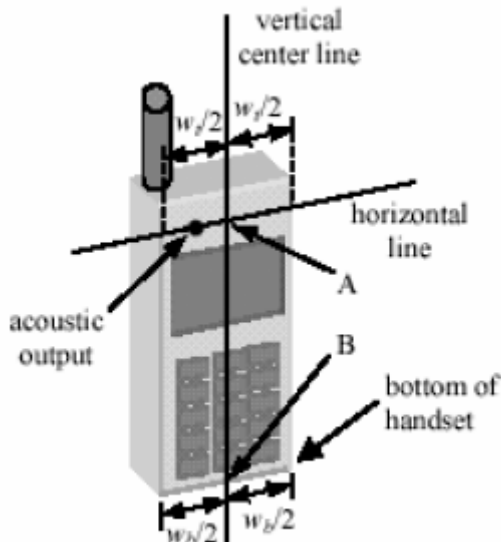
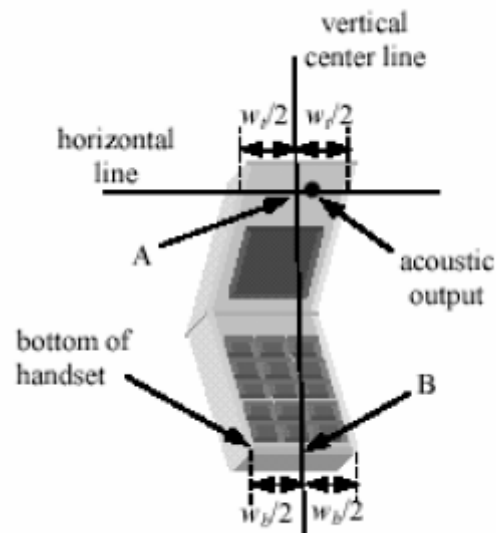

Figure 4.1a Fixed Case
Figure 4.1b Clam Shell
- Define two imaginary lines on the handset: the vertical centerline and the horizontal line. The vertical centerline passes through two points on the front side of the handset: the midpoint of the width w_t of the handset at the level of the acoustic output (point A on Figures 4.1a and 4.1b), and the midpoint of the width w_b of the bottom of the handset (point B). The horizontal line is perpendicular to the vertical centerline and passes through the center of the acoustic output (see Figure 4.1a). The two lines intersect at point A. Note that for many handsets, point A coincides with the center of the acoustic output. However, the acoustic output may be located elsewhere on the horizontal line. Also note that the vertical centerline is not necessarily parallel to the front face of the handset (see Figure 4.1b), especially for clamshell handsets, handsets with flip pieces, and other irregularly-shaped handsets.